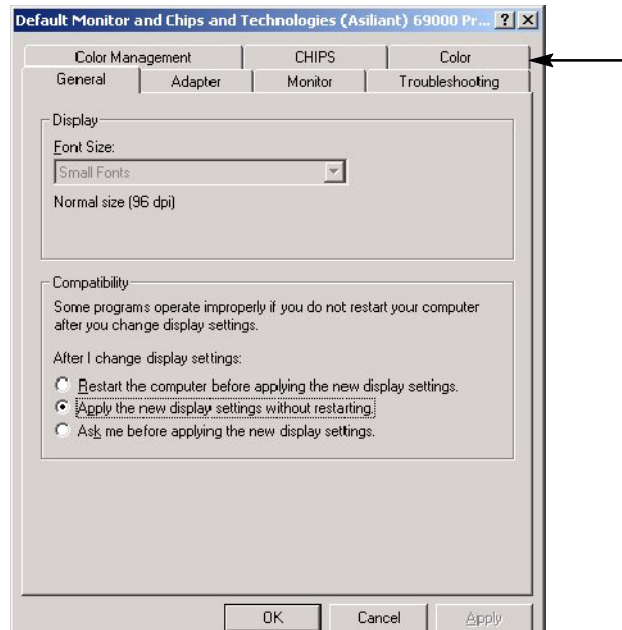

Figure 11: Color tab
5. Click the Color tab. See Figure 11.